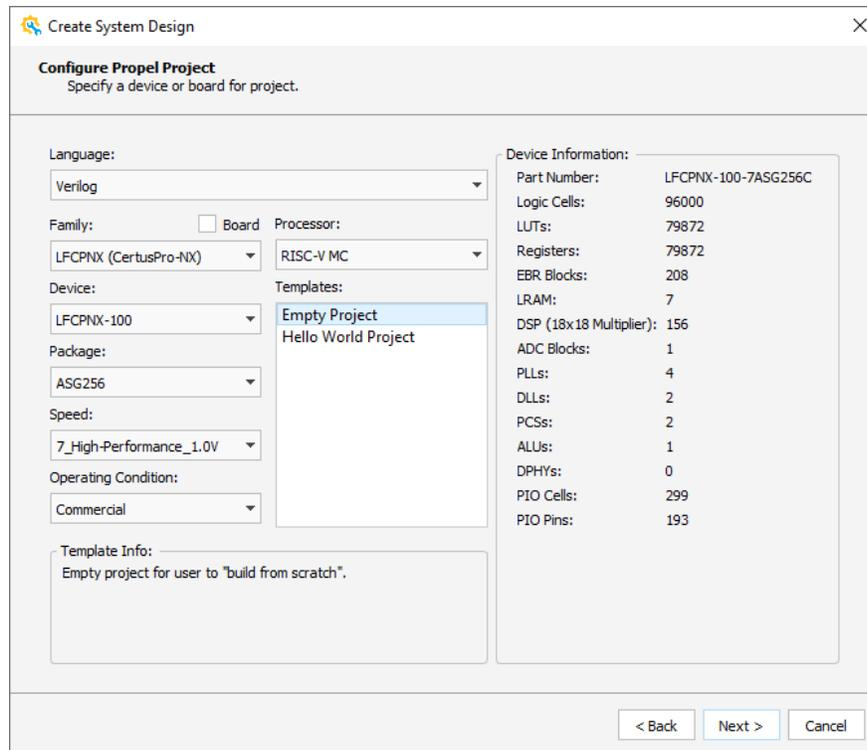

Figure 2.4. Specify a Device for Project
- Use the drop-down menu to select desired device information (Family, Device, Package and Speed), and select Empty Project in the **Templates** section (Figure 2.4).